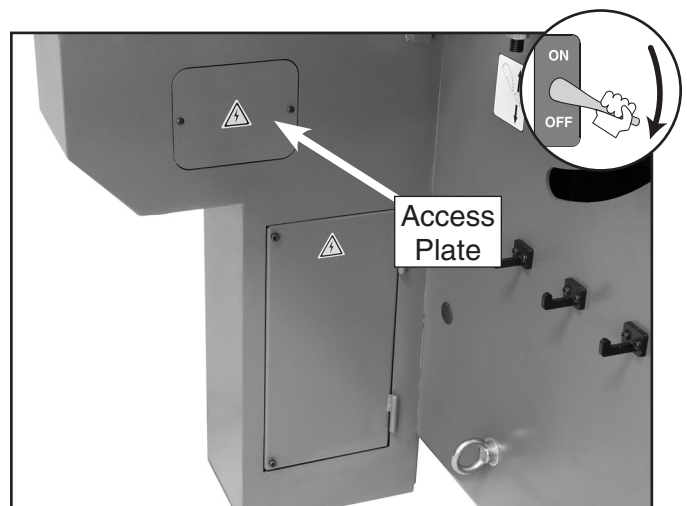

Figure 94. Table mounting bolt access plate.
8. Open the cover plates under each end of the table as shown in **Figure 94**, and loosen the table mounting bolts.